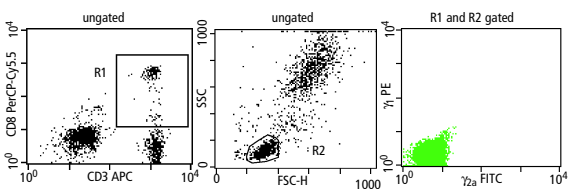

Figure 1 Gating strategy and isotype control
3. Acquire data with BD CellQuest Pro or BD CellQuest software, using a forward scatter (FSC) threshold. During acquisition, set up a CD3 vs CD8 dot plot (Figure 1). Gate on the CD3⁺/CD8⁺ lymphocytes (R1). In addition, create an FSC vs SSC dot plot and draw a region around the lymphocytes (R2). Using the Gate List menu option, create a logical gate named G3 (G3 = R1 and R2). Collect at least 20,000 events that follow the requirements for G3.